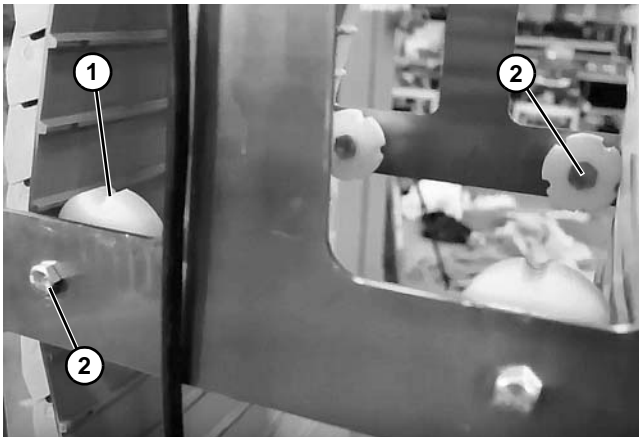

Figure 27
1. Install the scalloped return rollers (Figure 27, item 1) to the frame with hardware (Figure 27, item 2).